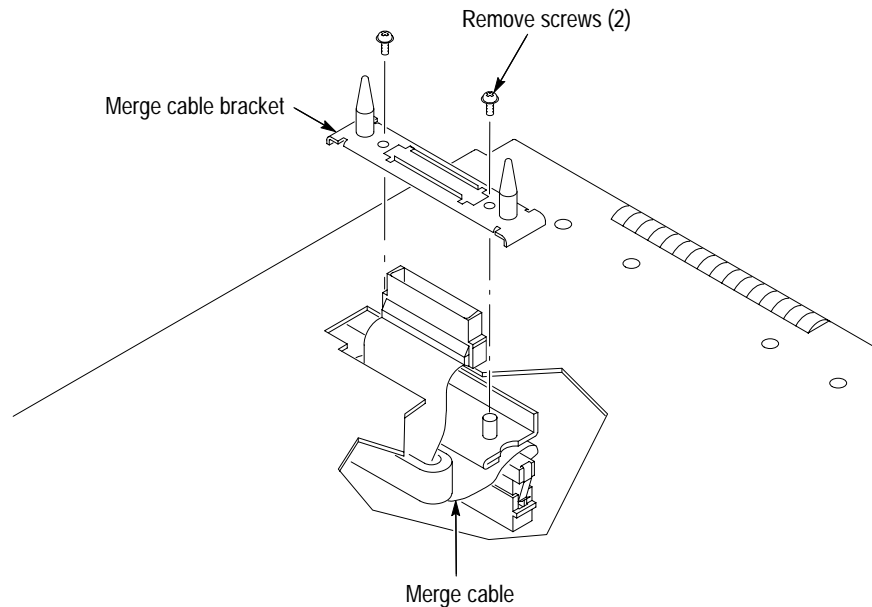

Figure 17: Feeding the Merge cable through the cover
9. Replace the cover while feeding the Merge cable through the hole in the cover (see Figure 17). Do not twist the cable while feeding it through the hole, otherwise the cable will not connect properly to the adjacent module.